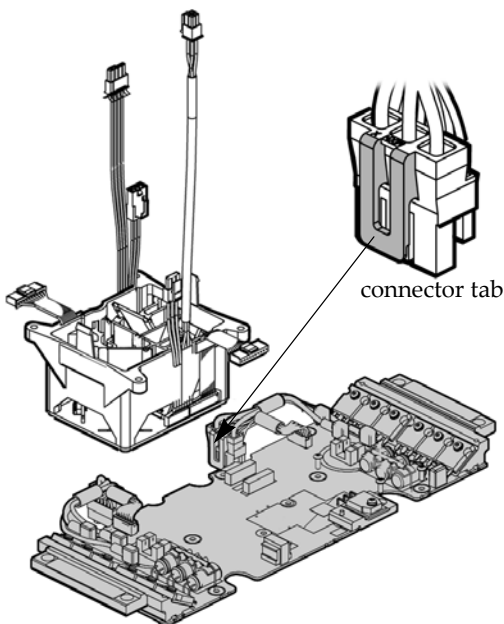
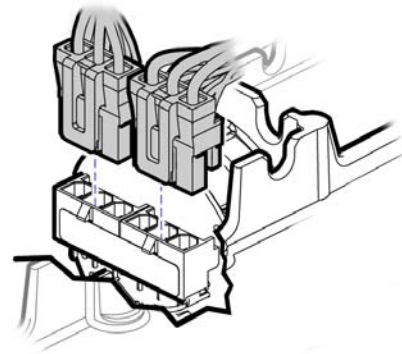

Figure 13-1: Pry Connector Tab
Figure 13-2: Disconnect CU Motor Harness from Motor
6. Use small flathead screwdriver and gently lift tab on connector (see Figure 13-1) from back of motor, and then carefully pull on both connectors to unseat. See Figure 13-2.